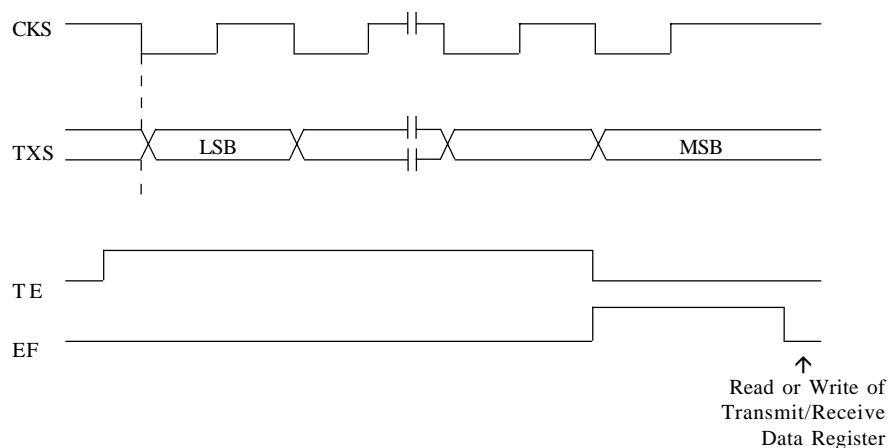

Figure 37
- (1) Note that transmitter clocking and receiver sampling timings are different from internal and external clocking modes. Fig 37 to Fig 40 shows CSI/O Transmit/Receive Timing.
- (2) The transmitter and receiver should be disabled ( $TE$  and  $RE = 0$ ) when initialising or changing the baud rate.